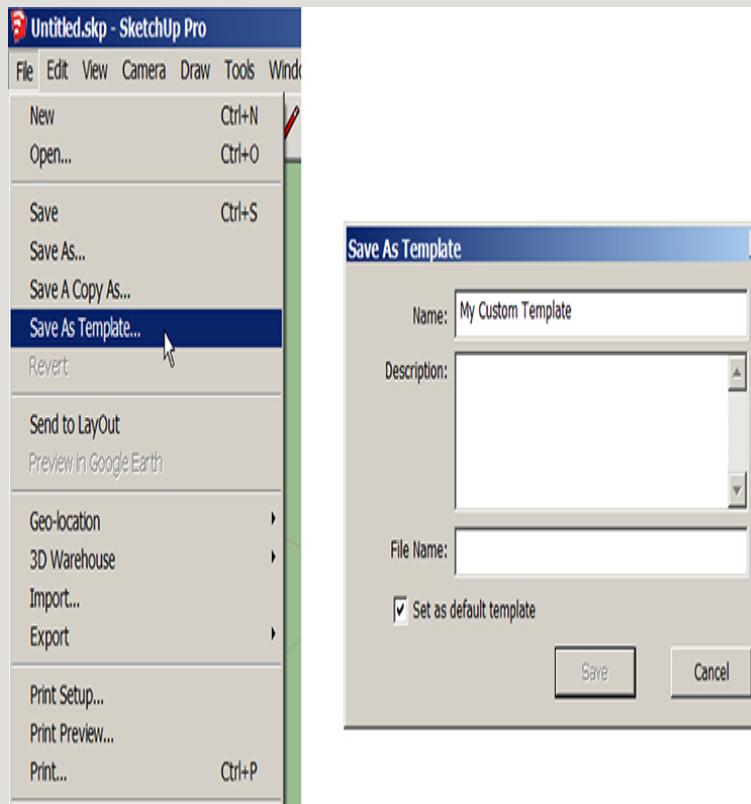

Figure 2-43 Setting up a custom template.
- Go to File > Save As Template to save this file (Figure 2-43).